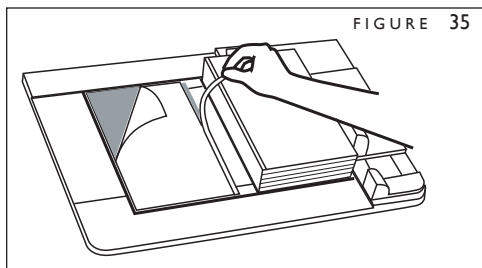
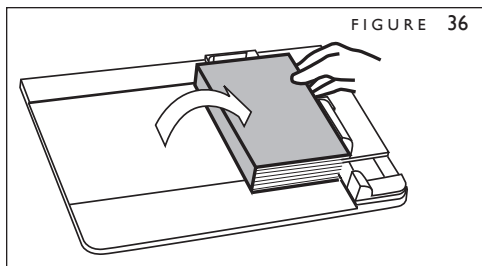

FIGURE 35
FIGURE 36
5. Remove the remaining release papers, (Figure 35), and bring the left panel of the Fastback Hardcover over onto the book block with the top and right edges of the cover abutting the purple stops (Figure 36). Remove the book from Guide and rub the endleaves to ensure that they are securely fastened.